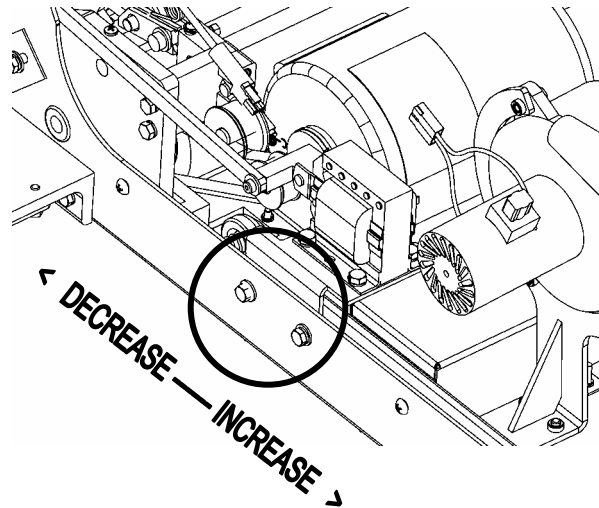

Figure 4-5
2. On each side of the machine frame, locate the buffer brush pressure screws. Figure 4-5 shows the screws on the side near the waste tank.